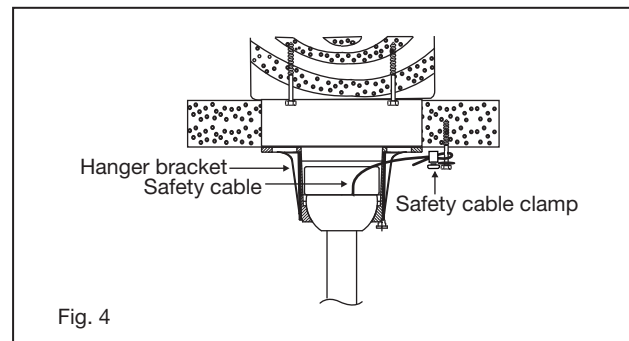

Fig. 4
- 8 Attach the canopy to the hanger bracket by inserting the keyslot openings of the canopy on the hanger bracket screws (Fig. 4), and turn the fan to the right to engage the screws in the keyslot.
**NOTE:** The tab opposite hanger bracket opening should fit in slot on ball. (Fig. 4)
Attach the lag bolt and flat washer to ceiling joist. Attach the safety cable to lag bolt. Slide cable clamp onto safety cable (from fan). Place the end of cable through the lag bolt. Pull as much cable through lag bolt as possible. Feed end of cable into clamp hole and firmly tighten screw (Fig. 4). Cut off excess safety cable.